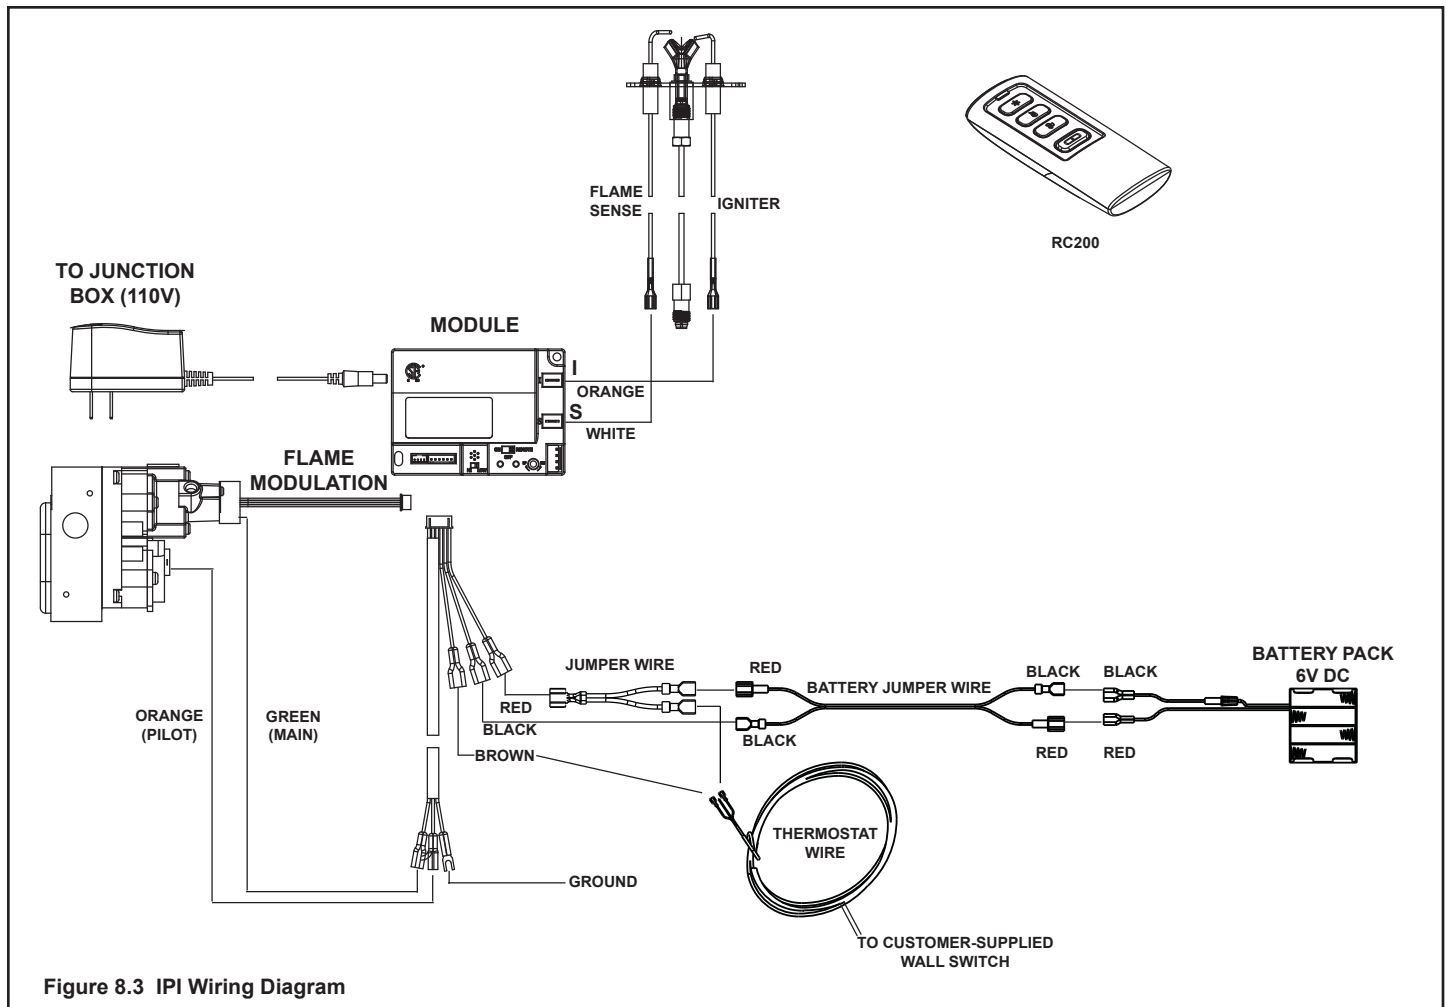

Figure 8.3 IPI Wiring Diagram
- Refer to Figure 8.3, IPI Wiring Diagram.